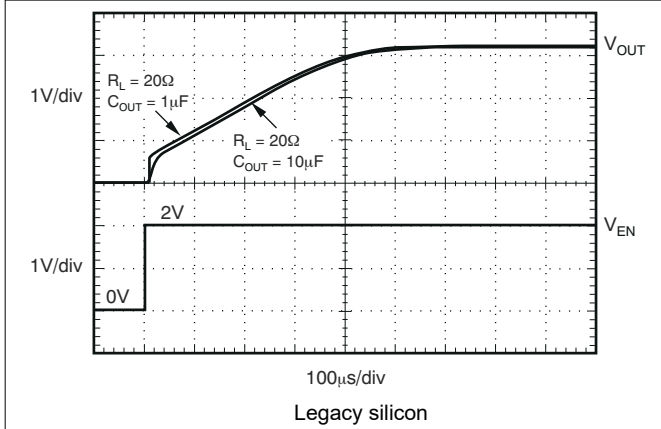

Figure 5-39. TPS73701-Q1 Turn-On Response
The enable pin (EN) is active high and is compatible with standard TTL-CMOS levels. A V_{EN} below 0.5V (maximum) turns the regulator off and drops the GND pin current to approximately 10nA. When EN is used to shutdown the regulator, all charge is removed from the pass transistor gate. A V_{EN} above 1.7V (minimum) turns the regulator on and the output ramps back up to a regulated V_{OUT} (see Figure 5-39).